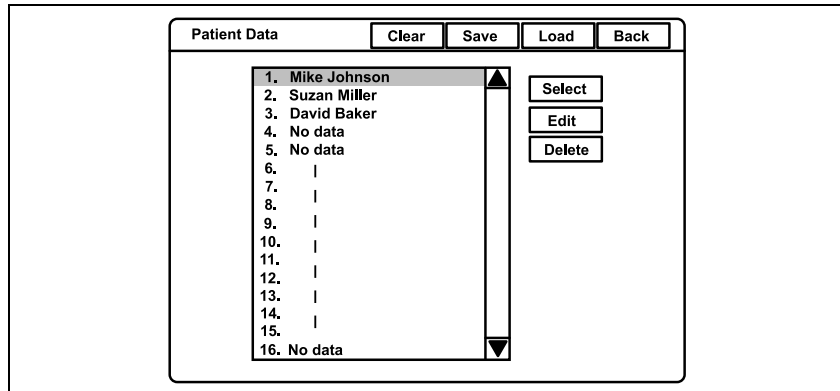

Figure 5.94
1. Press the “Shift” and “F3” keys together to display the “Patient Data” menu (see Figure 5.94).